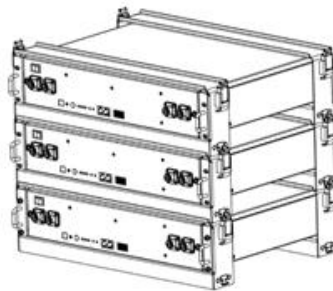

Figure 3-8
4. Stack the required number of battery and bracket combinations as described above, and fasten the top and bottom buckles. Shown as Figure3-8.